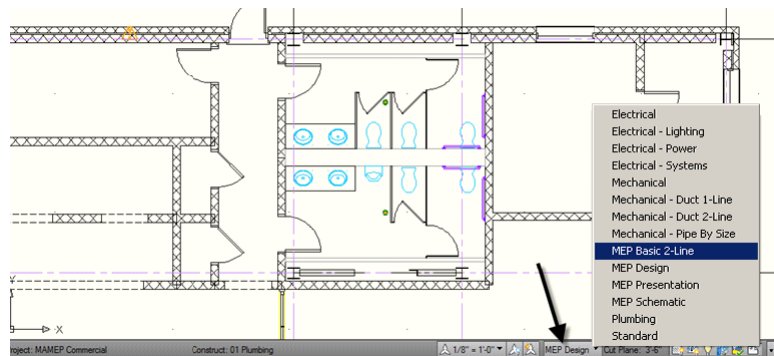

Figure 6.59
4. On the Drawing Status Bar (lower right corner of the drawing window) change the Display Configuration to: MEP **Basic 2-Line** (see Figure 6.59).